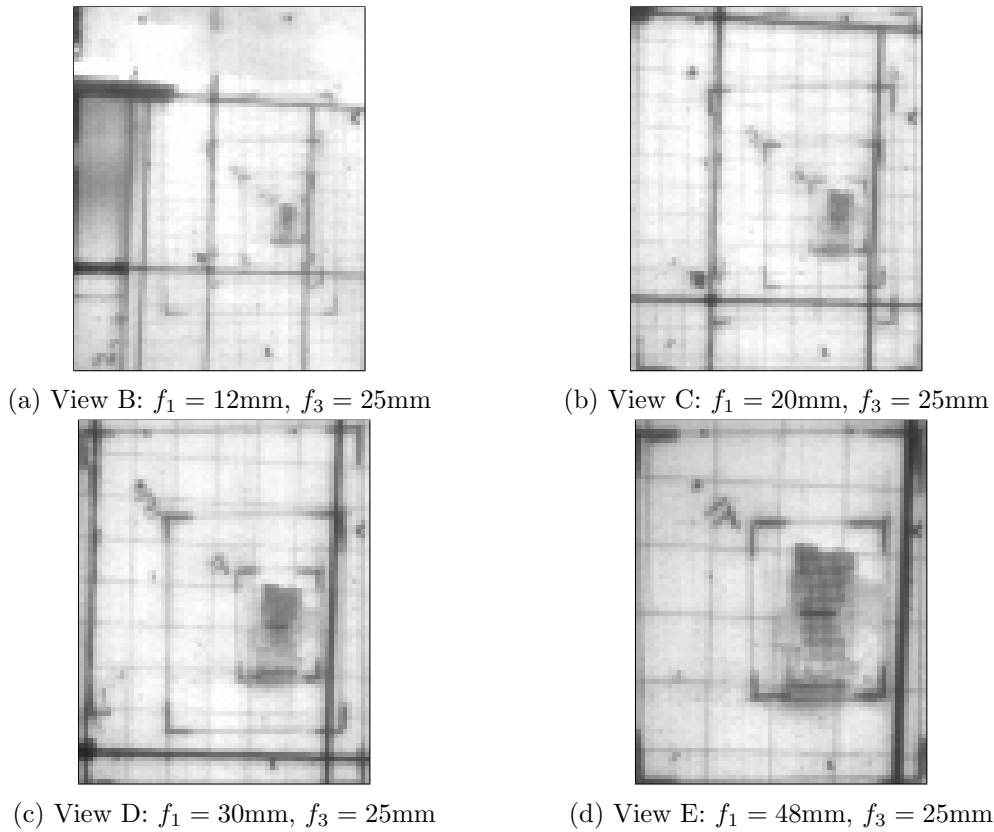

Figure 5: Zoom views with new optics
8. Record several images of new calibration plate, varying front zoom lens (L1) from $f_1 = 8\text{--}48\text{mm}$. Leave camera zoom lens (L3) at $f_3 = 25\text{mm}$, and mirror angle at ‘View A’ setting. These settings will be called ‘Views B-E’. Mark corners of each view on new calibration plate; see Figure 5. For each view, measure horizontal width and vertical height of view region. Measure horizontal and vertical distance from center of view to calibration point 3 (from original calibration plate).